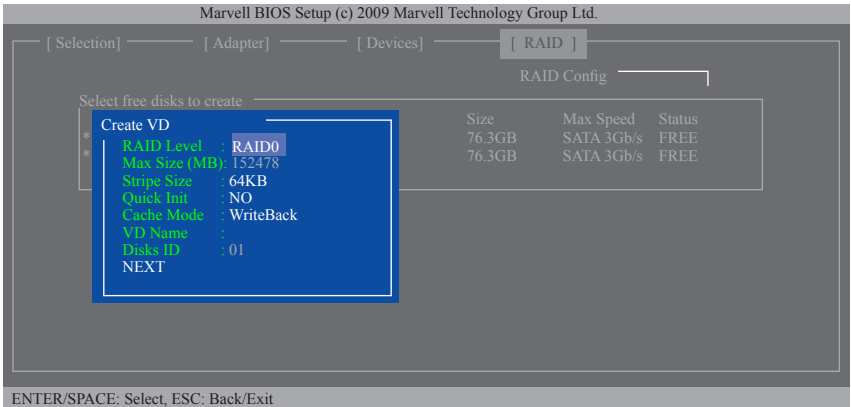

Figure 6
Step 3: On the **Create VD** menu (Figure 6), use the up or down arrow key to move the selection bar to select an item and press <Enter> to display options. Set the required items in sequence and press the down arrow key to proceed to the next item.